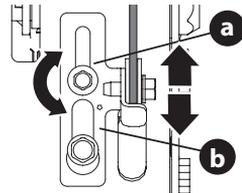

Figure 59
2. Loosen upper hex screw (a) on drive cable bracket (b) (Figure 59).